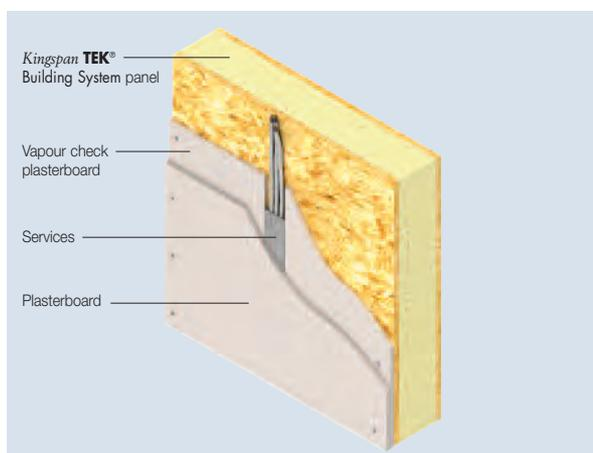

Figure 6
- a double layer of 12.5 mm plasterboard – the layer closest to the **Kingspan TEK® Building System** panel should be chased out to create a cavity for services. The second layer should be 12.5 mm vapour check plasterboard (see Figure 6).